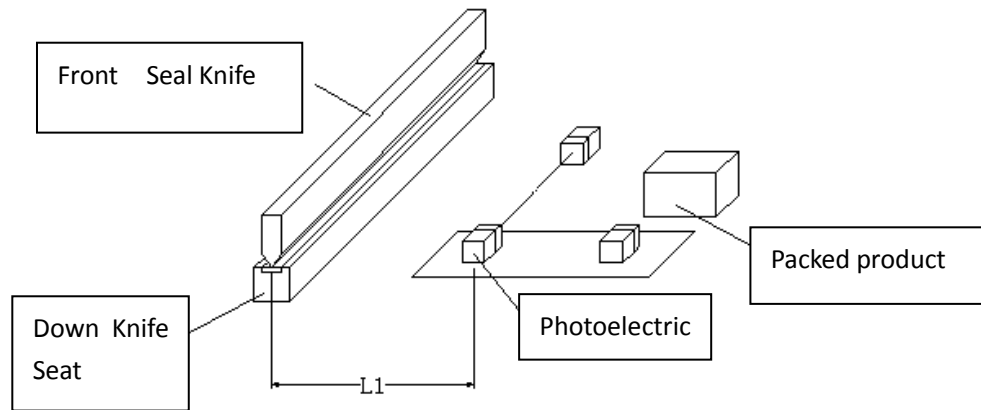

Figure5.8
- a. When the length of the reserved film is too long, the distance between the electric eye and the sealing knife L1 (Fig. 5.8) can be adjusted closer.